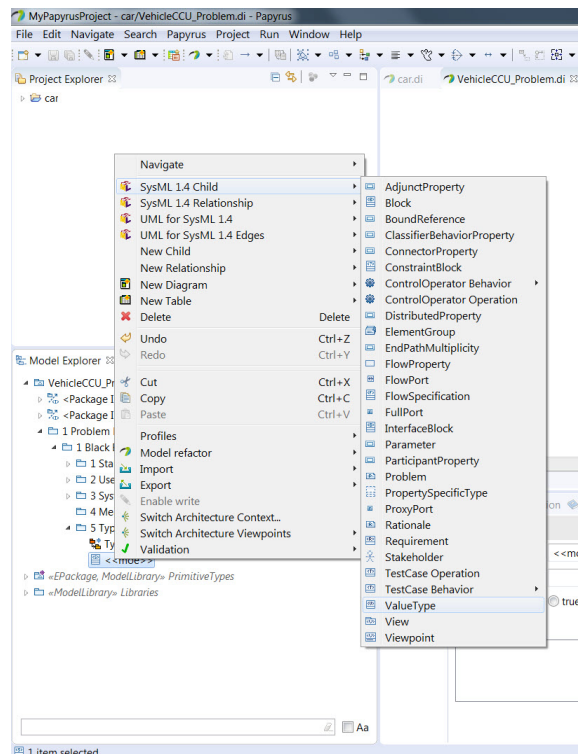
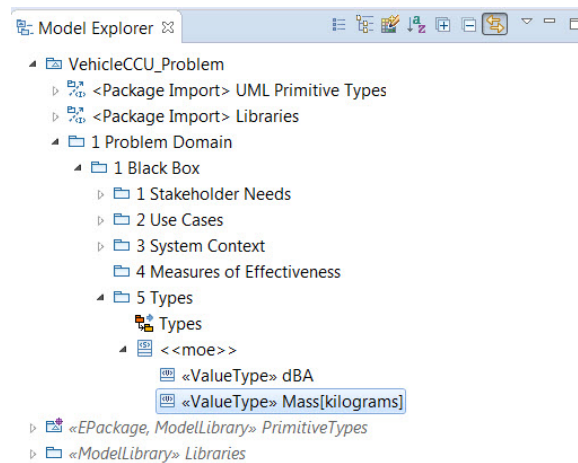

Figure 75: Value Type Menu Item.
Figure 76: Value Types Created.
- Now we will create two value types to be used with our MOE's. Right-click the «moe» stereotype that you just created and select **SysML 1.4 Child** and then **ValueType** (figure 75). Name the value type *dBA*. This is our sound level value type measured in decibels. Create another value type and name this one *Mass[kilograms]*. Your *Model Explorer* window should look like (figure 76).